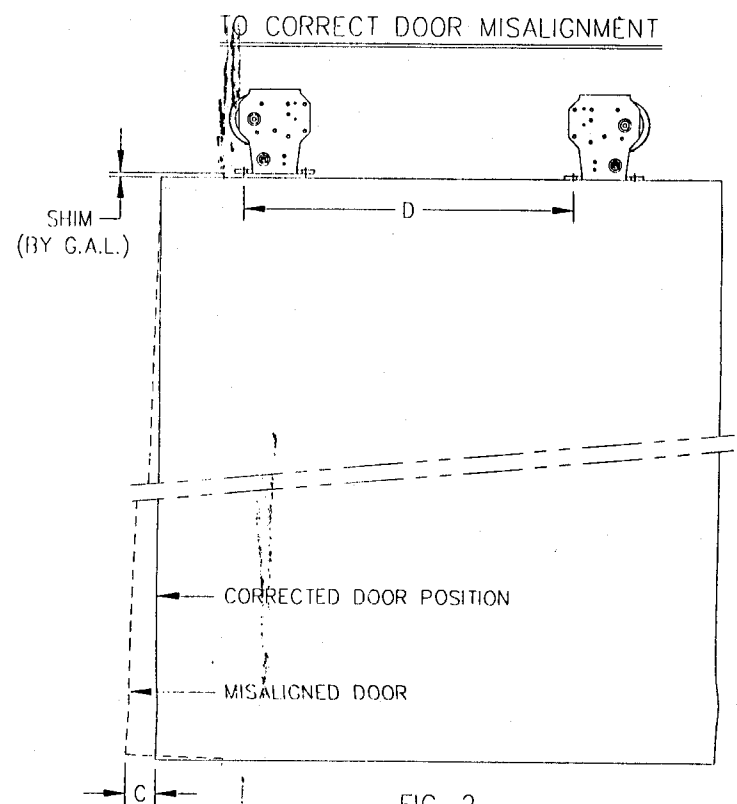

FIG. 2
- 5.- CHECK DOOR MISALIGNMENT IN OPENED AND CLOSED POSITION AND CORRECT IF REQUIRED. FIG. 2
| 43-44-45        | 88 | 24 (FIG. 2) | 24 | 31 | (45) 22(43-44) 18 | 41-44      | 3 | 33 1/2 | 46 1/2 |
| 40-41-42        | 82 | 24 (FIG. 2) | 24 | 28 | 18                    | 36-40      | 3 | 29 1/2 | 47 1/2 |
| 37-38-39        | 76 | 24 (FIG. 2) | 12 | 25 | 14                    | 28-35      | 3 | 27 1/2 | 42     |
| 34-35-36        | 70 | 24 (FIG. 2) | 12 | 22 | 14                    | 27         | 2 | 24 1/2 | 36     |